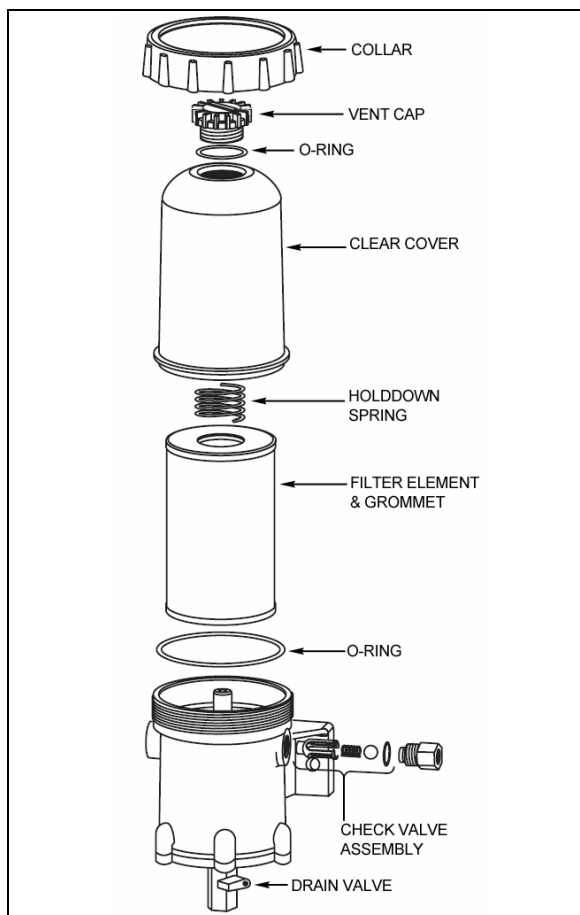

FIGURE 7: DAVCO FUEL PRO 382 EXPLODED VIEW 03034
5. Place assembly in drill hole. Tighten screw by 10 complete turns. Refer to Fig. 7.